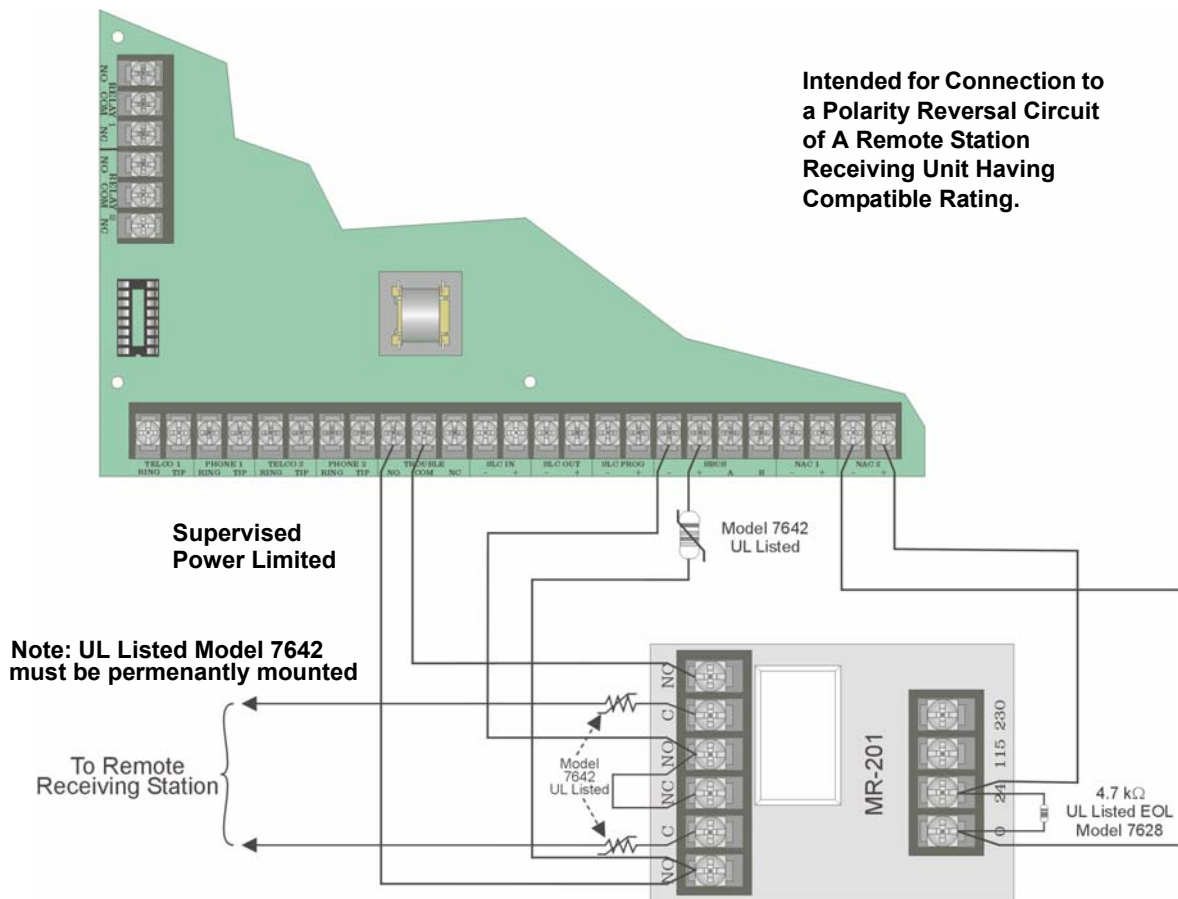

Figure 4-37 Polarity Reversal Connection Using the MR-201/T Relay
1. Wire the MR-201/T as shown in Figure 4-37.